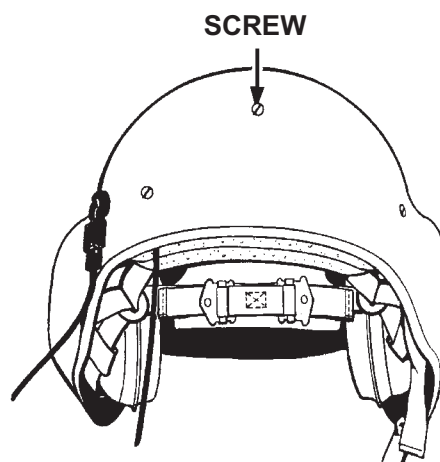

Figure 4-8. Rear Retention Screw
3. Referring to Figure 4-8, remove the pan-head screw, spring washer, and post attaching the retention assembly to the center rear of the helmet shell. Retain the screw, washer, and post for reinstallation.